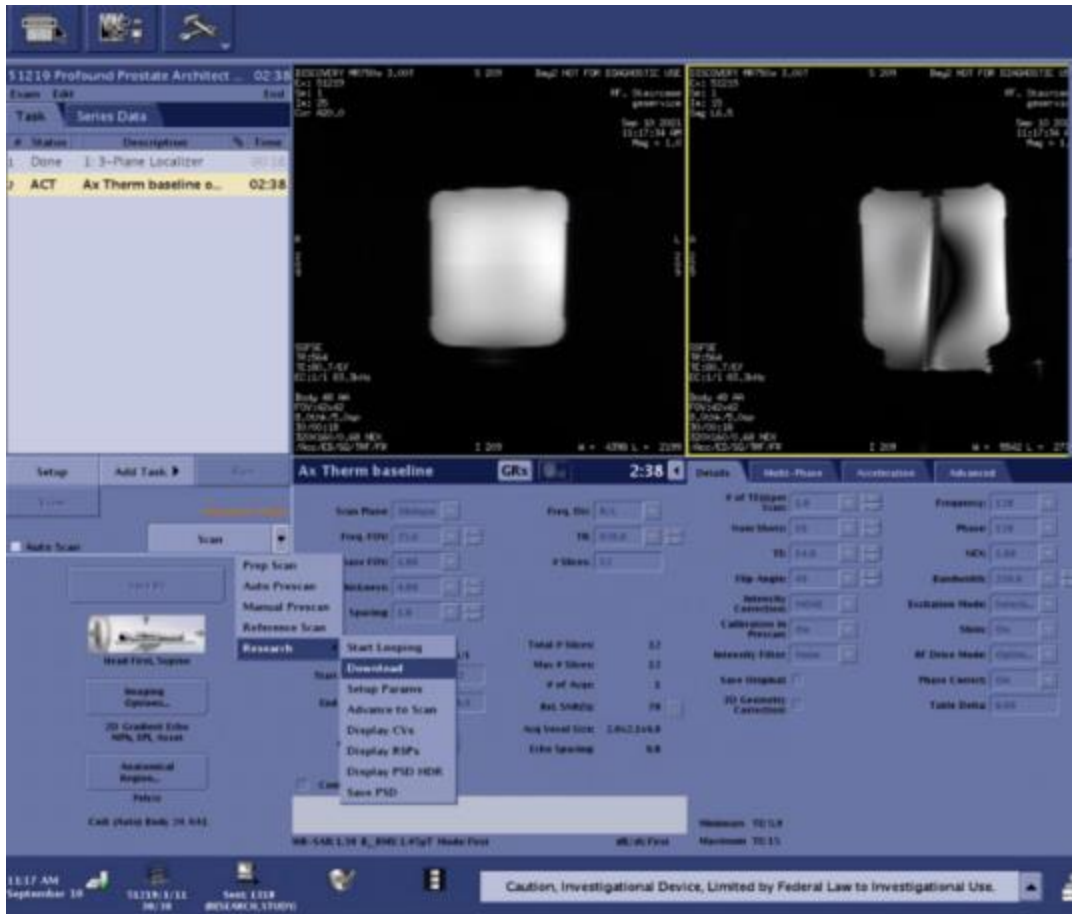

Figure 37: Downloading AX THERM scan parameters to the MRI
4. In the dropdown list next to the **Scan** button, select **Research > Download**(Figure 37).